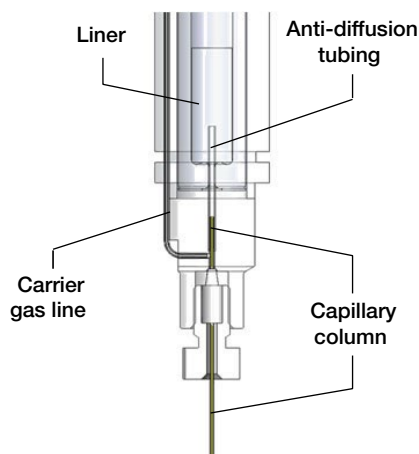

Figure 2. HeSaver-H2Safer bottom view of the body
- The **carrier gas line** at the base of the injector body delivers the carrier gas to the column— **helium** or **hydrogen**, depending on the configuration and the gas mode selected. A short segment of tubing acts as a back diffusion barrier preventing the pressurizing gas from entering the column during the chromatographic run (Figure 2).